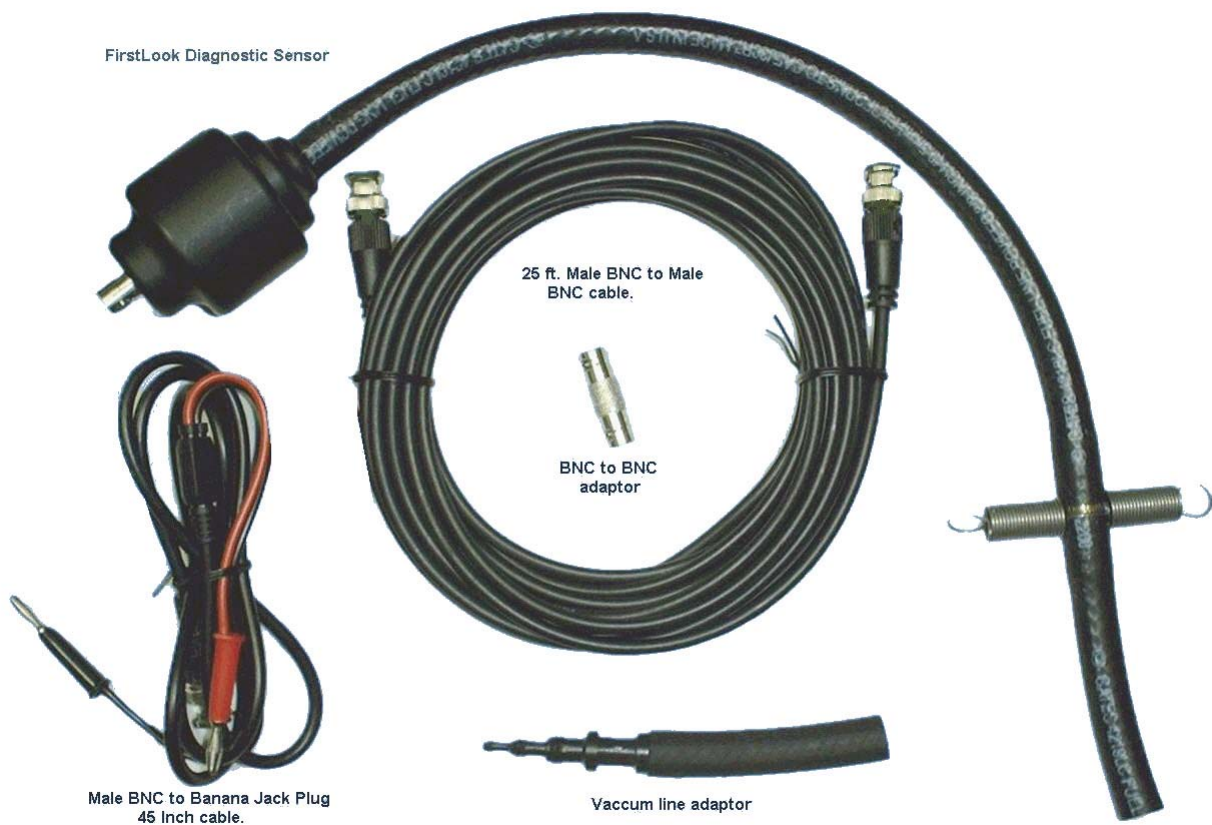

Figure 2
1. Remove sensor and cabling from package (Figure 2)